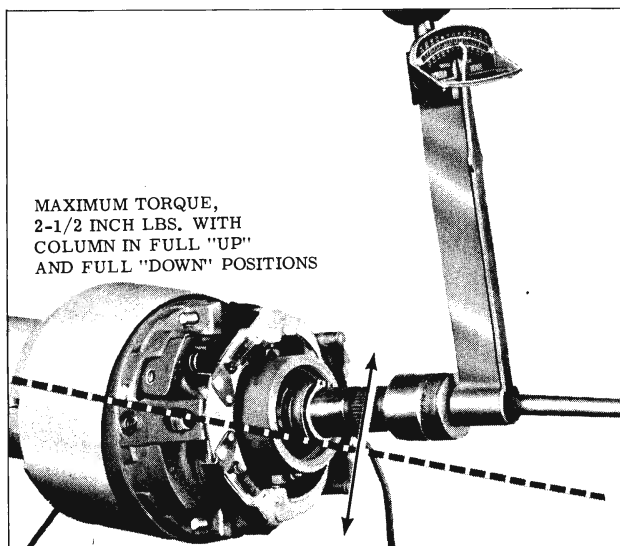

Fig. 4-108 Checking Steering Shaft Torque
2. Check the torque of the steering shaft by installing a 3/4" twelve point socket and using an inch lb. torque wrench. (Fig. 4-108) The shaft should rotate with the column in the full "up" position and the full "down" position with a maximum reading of 2-1/2 inch lbs. If the torque reading is greater than 2-1/2 inch lbs., it will be necessary to install a new collapsible spacer.